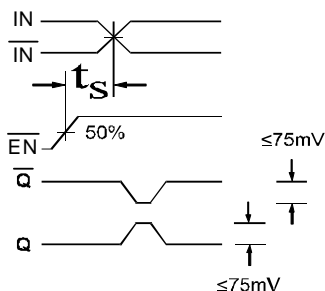

Figure 1. Setup Time
5. The setup time is the minimum time that EN must be asserted prior to the next transition of IN/ IN to prevent an output response greater than $\pm 75mV$ to that IN/ IN transition (see Figure 1).